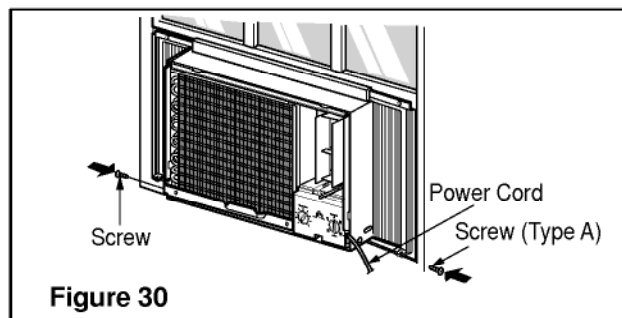

Figure 30
7. Slide the unit into the cabinet. (See Fig. 30)